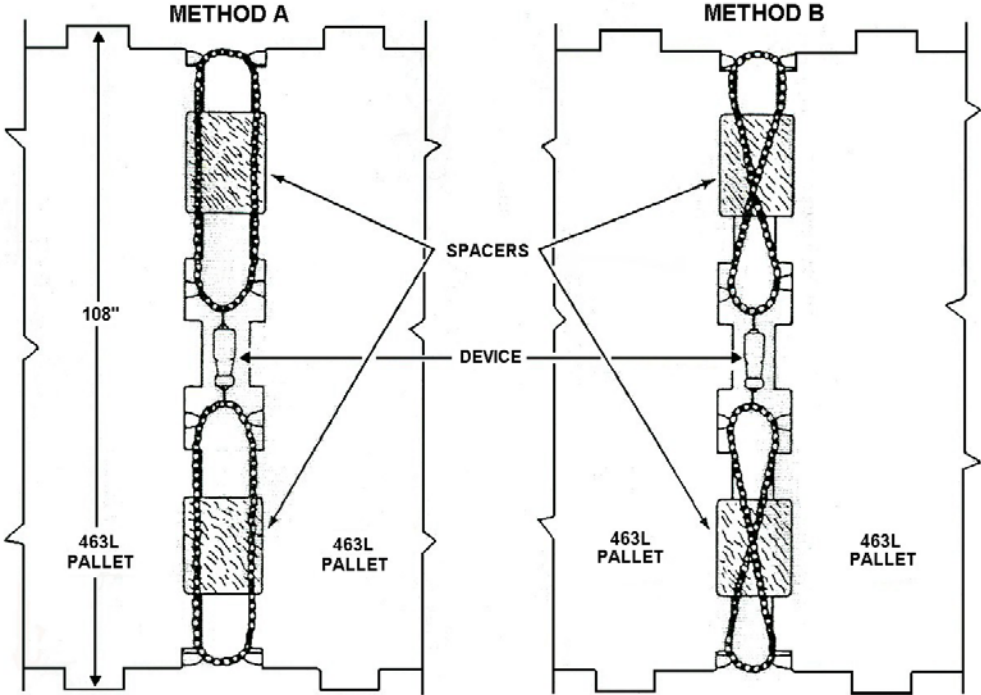

Figure 3-7
d. Chain pallets together using tie-down devices (see Figure 3-7).